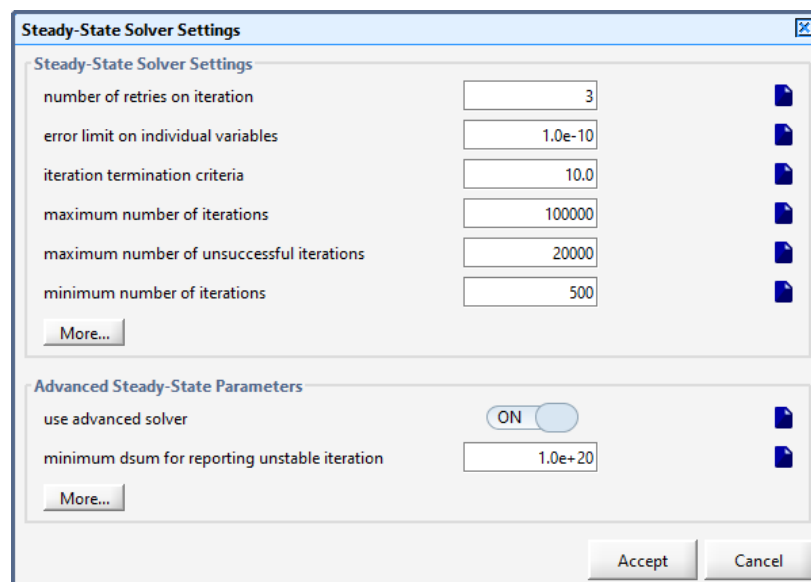

Figure 8-14 – Steady-State Solver Settings Dialog
2. Select the **Layout > General Data > System > Input Parameters > Steady-State Solver Settings** menu item. The steady-state solver parameters dialog is displayed as shown in **Figure 8-14**.
GPS-X will re-initialize the steady-state solver and attempt to find a solution to the equations. The number of retries should be kept small as it is unlikely that the system will converge if the procedure has failed after 5 retries. Under these circumstances, it still may be possible to achieve convergence by modifying other solver parameters shown in **Figure 8-14**. As a last resort, it may be necessary to modify either the model structure or model parameters to achieve convergence.